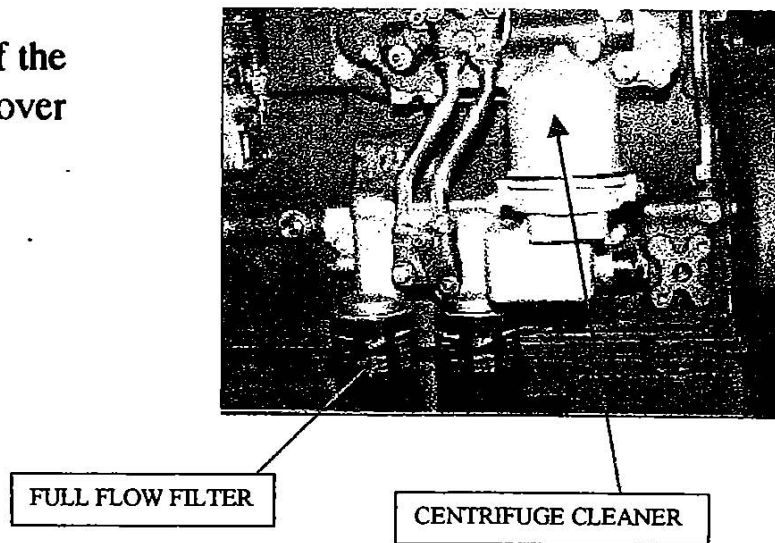

Fig.3.12
1. Unscrew the top nut of the cleaner and remove the cover (Fig.3-12)